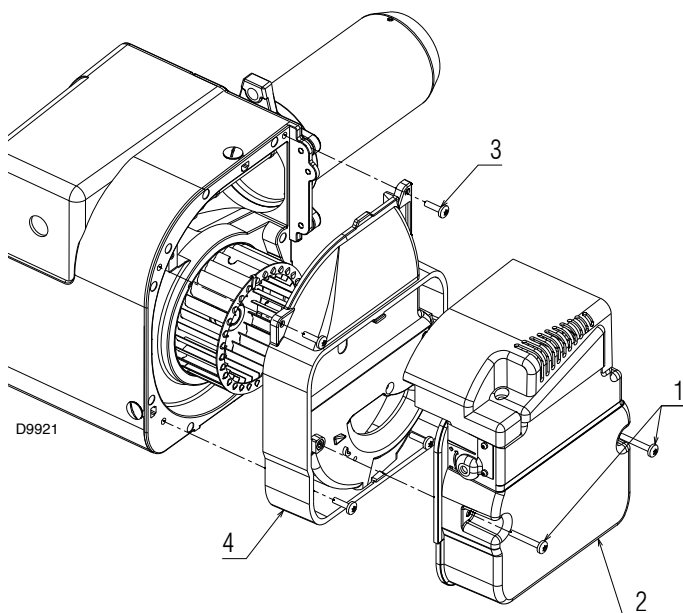

Fig. 22
- undo the screws 1)(Fig. 22) and take out the air damper assembly 2);